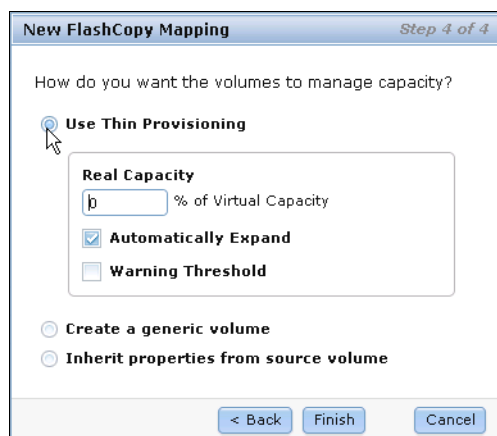

Figure 9-22 Create a thin provisioned target volume
- e. You are prompted to select how you want to manage volume capacity. **Create a generic volume** is your default choice. If you select a thin-provisioned volume, you get additional options (Figure 9-22).